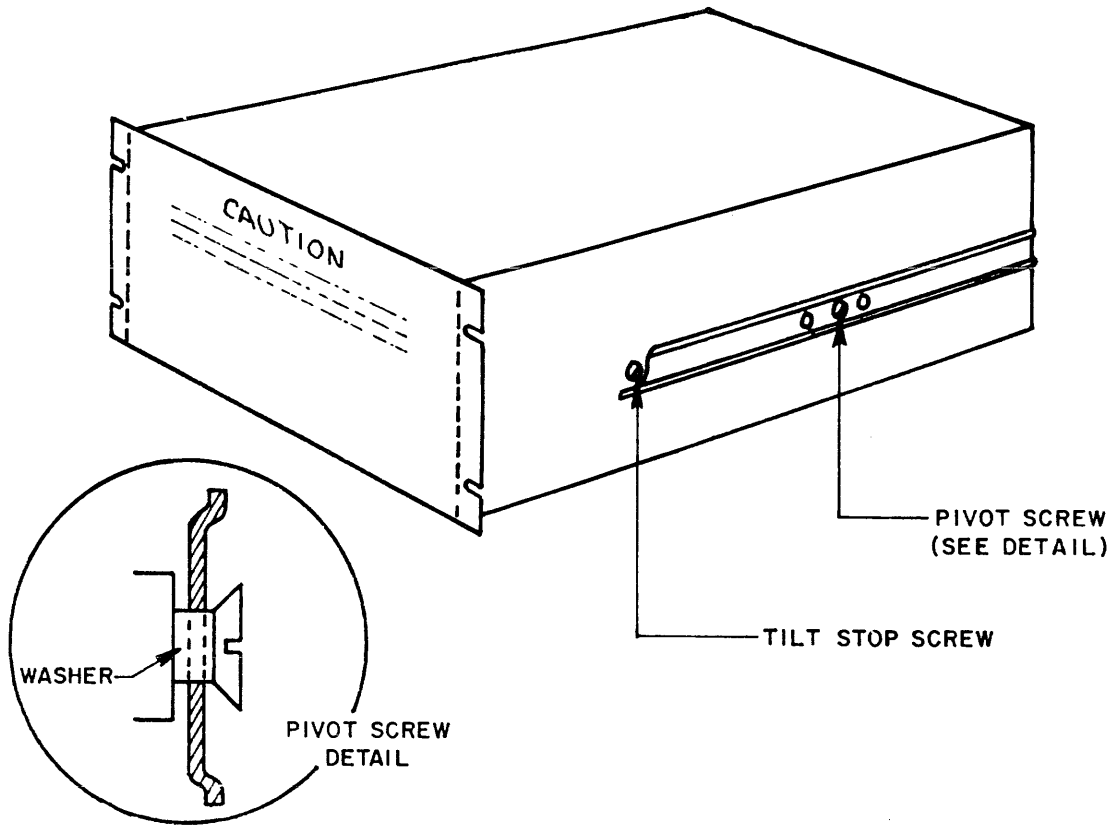

Figure 6-3. Installation of Slide Chassis Sections
- d. Install the slide chassis sections on the new power supply as shown in figure 6-3. Use a 5/16-24 pivot screw and 5/16" flat washer at the center, and a # 12-24 tilt stop screw and # 12 washer at the forward end of each chassis section. Ensure that the front (cutaway) end of each chassis section is below its tilt stop screw.